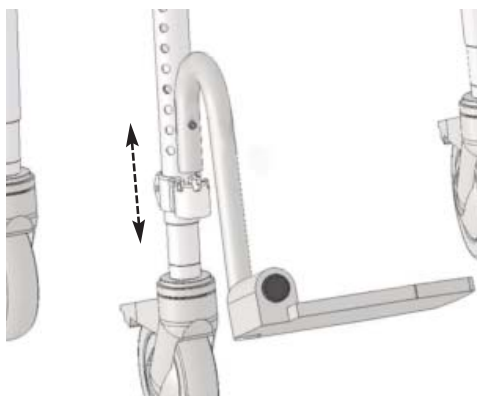

Figure 19
**E Footrest Assemblies:** Footrest clamps are installed on the front legs at the factory. Slide the footrest into the clamp. Loosen the pinch bolt on the footrest clamp and slide up/down as required by the user's leg length (Refer to Figure 19).